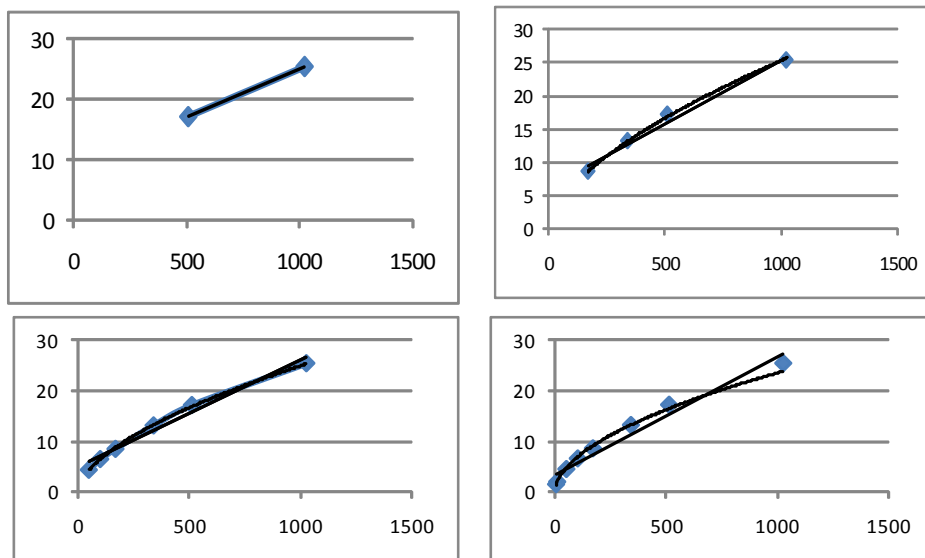

Figure 2-6: Regression result as a function of # of viscometer data points. (2, 4, 6, and 8 data points).
b) Regression results for Bingham (straight line) and Power law (curved line) models are presented in Figure 2-6: